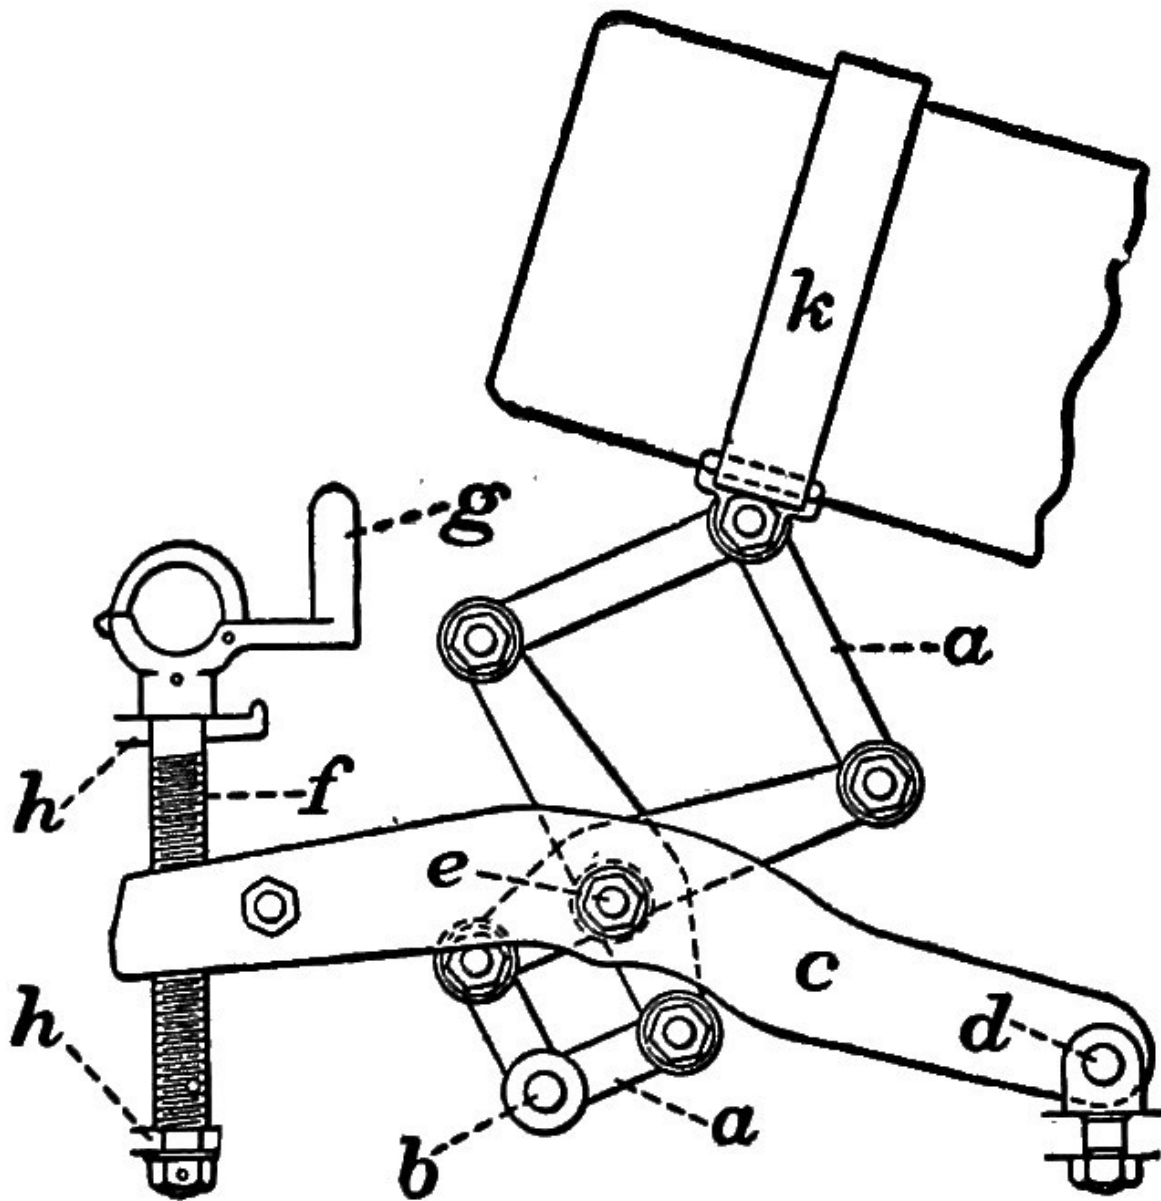

FIG. 60.
The Elevating Device (4), Fig. 60, consists of *frame* and *double lazy-tongs*.